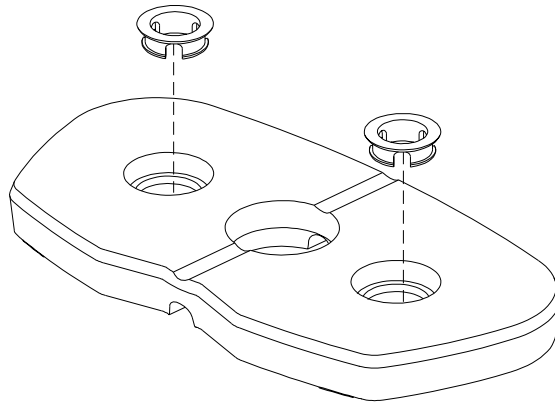

**FIGURE 1**
- **LOOSELY** assemble two BASE PLATES (C) to the FRAME (A) and BASE (B) using three 3/8 X 3-3/4" BOLTS (6) and four 3/8" LOCKNUTS (19). See FIGURE 1.
- **LOOSELY** assemble the FOOTPLATE (L) to the lower holes in the FRAME (A) using one 3/8 X 3" BOLT (8) and one 3/8" LOCKNUT (19) as shown in FIGURE 1.